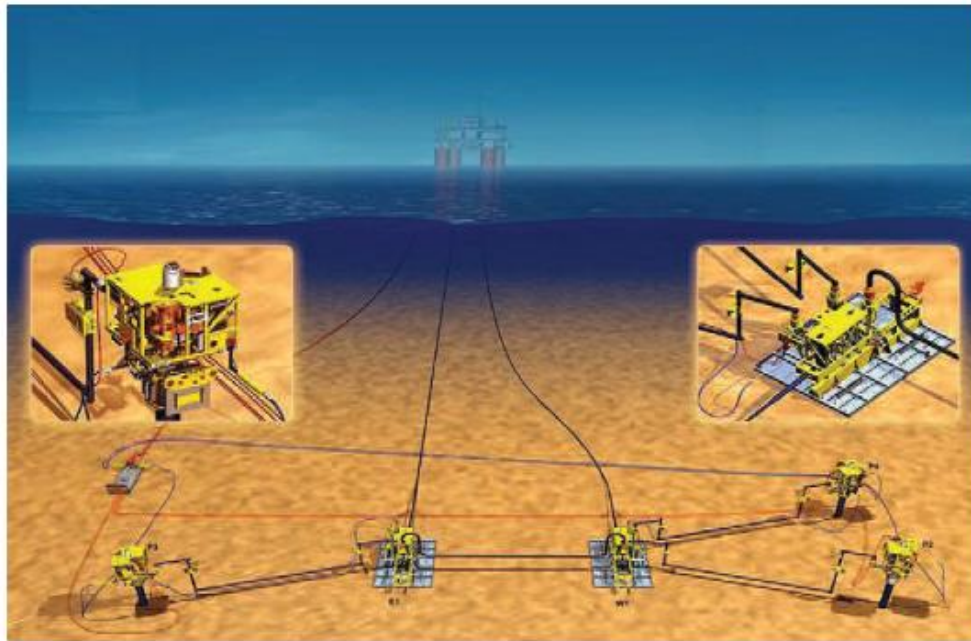

Figure 2-20 Typical Satellite Tie-Back System [2]
- A satellite well is an individual subsea well. Figure 2-20 illustrates a typical satellite tie-back system.